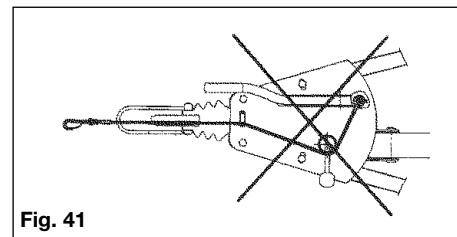

Fig. 41
2. The breakaway cable MUST NOT be wrapped around the jockey wheel, as this disables the emergency brake (Fig. 41).